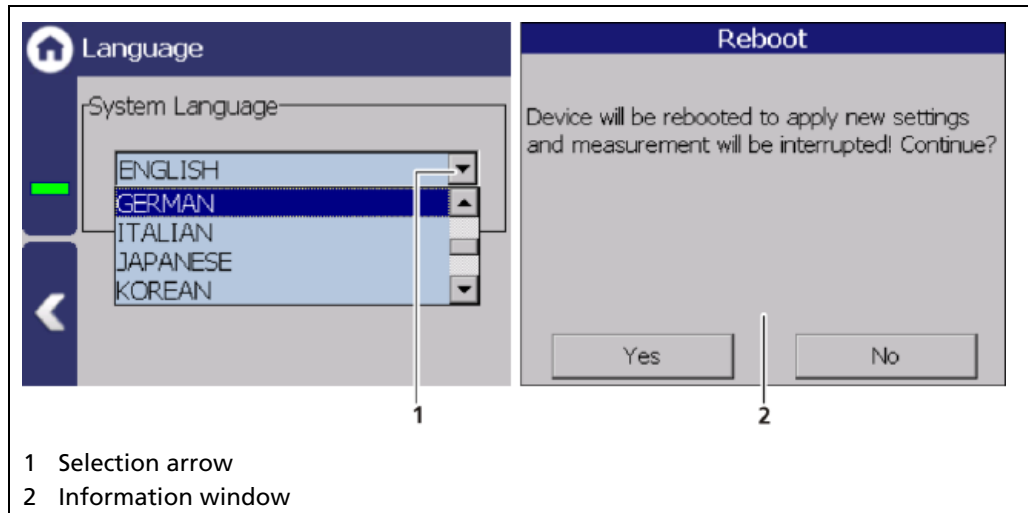

Fig. 36 Language
1. Click on the selection arrow (Fig. 36, item 1) and select a language.
- ▶ An information window "Reboot" (Fig. 36, item 2) appears.